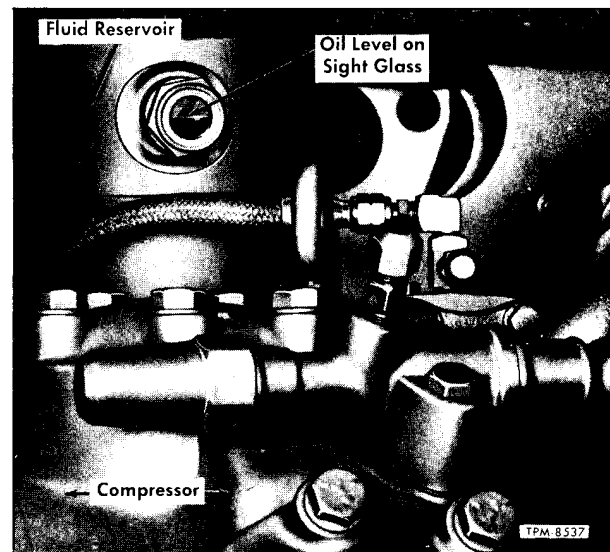
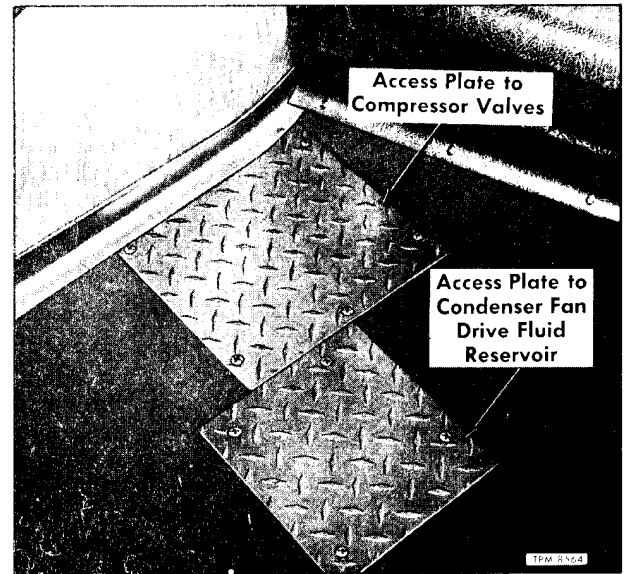
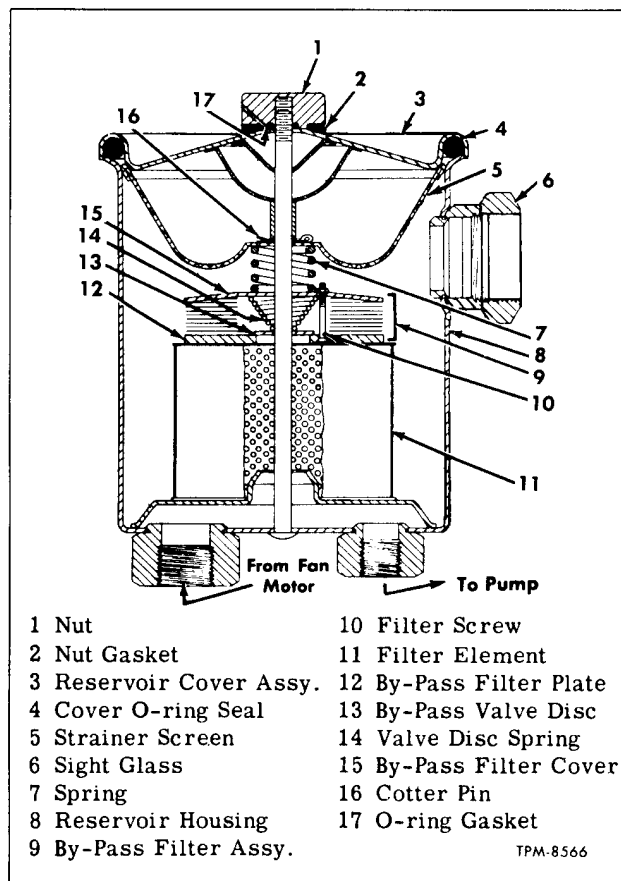

Figure 18—Condenser Fan Drive Fluid Reservoir Installed
Figure 24—Access Plates over Compressor and Reservoir
Figure 25—Sectional View of Fluid Reservoir (Typical)
The hydraulic fluid reservoir which contains a reserve supply of system fluid is also rubber-mounted and is located in the refrigerant compressor compartment (fig. 18).
The condenser fan hydraulic fluid level should be checked at regular coach lubrication intervals. Fluid level check is made at the system fluid reservoir which is mounted in the compressor compartment. Fluid level should be half way up on sight glass at side of reservoir (fig. 18). If necessary, add type "A" automatic transmission fluid, as explained later under "SYSTEM SERVICES AND TESTS." **IMPORTANT: DO NOT OVERFILL.**
partment (fig. 18). Figure 24 shows access plate to reservoir. Plate is secured to floor with screws. A disposable type filter element is located in bottom of reservoir (fig. 25) with a fluid by-pass filter and valve located directly on top of element. Purpose of the by-pass valve is to allow passage of fluid through reservoir in the event the filter element becomes clogged.
NOTE: Key numbers in following text refer to figure 25.
1. Referring to figure 25 for positioning of parts, assemble by-pass filter assembly (9). Tighten filter attaching screw nuts evenly.
2. Place new filter element (11) into reservoir housing (8), then place by-pass filter assembly (9) on top of element.